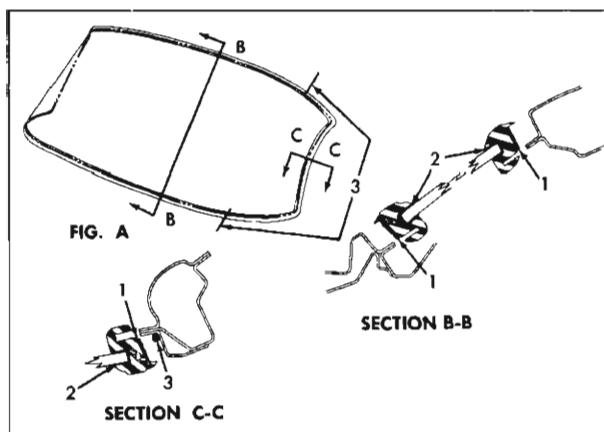

Fig. 11-12 Windshield Sealing
5. Apply a ribbon of medium-bodied sealer completely around base of rubber channel as indicated by 1 (Fig. 11-12).
6. Apply a bead of medium-bodied sealer, approximately  $\frac{1}{4}$ " in diameter to corner of windshield opening rabbet around each side of windshield for distance indicated by 3 (Fig. 11-12).
9. Using a pressure type applicator, seal inner and outer lips of rubber channel to glass as indicated by 2 in (Fig. 11-12) with an approved weatherstrip adhesive. Seals are to extend completely around rubber channel.
7. Using a pressure type applicator, seal inner and outer lips of rubber channel to glass with an approved weatherstrip adhesive #2 (Fig. 11-12).